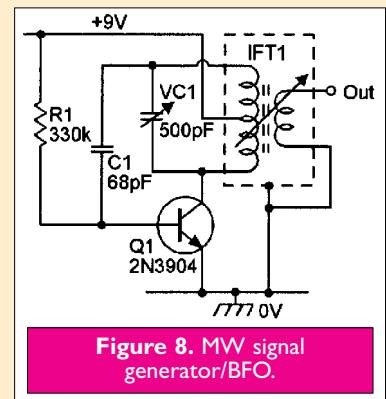

Figure 8. MW signal generator/BFO.
L-C oscillators have many applications in test gear and gadgets, etc. Figure 8 shows an L-C medium-wave (MW) signal generator or beat-frequency oscillator (BFO), with Q1 wired as a Hartley oscillator that uses a modified 465 kHz IF transformer as its collector load. The IF transformer's internal tuning capacitor is removed, and variable oscillator tuning is available via VC1, which enables the output frequency (on either fundamentals or harmonics) to be varied from well below 465 kHz to well above 1.7 MHz. Any MW radio will detect the oscillation frequency if placed near the circuit; if the unit is tuned to the radio's IF value, a beat note will be heard, enabling CW and SSB transmissions to be clearly heard.